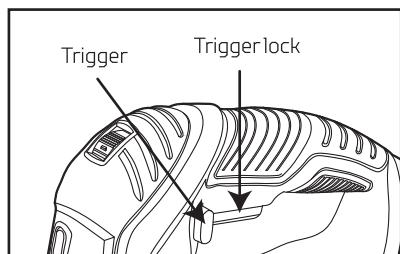

Figure 4
3. Squeeze the Trigger (17) to turn on the Jigsaw. If operating the Jigsaw for an extended period of time, press the Trigger Lock to lock the Trigger in its "ON" position. See Figure 4, right.